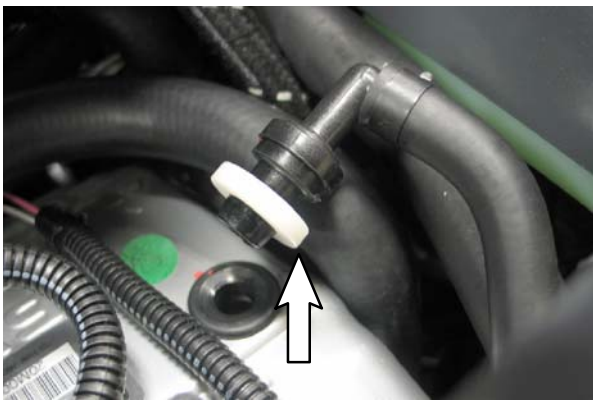

FIG. 2
2. Unplug the PCV valve from the engine. Remove and discard the washer (if equipped). (Fig. 2)